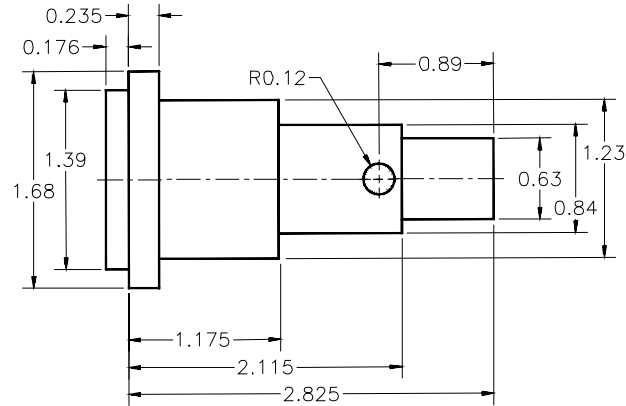

Figure 16-32 Drawing of Part-1
2. Draw Part-1 with dimensions as shown in Figure 16-32. Save the drawing as Part-1.